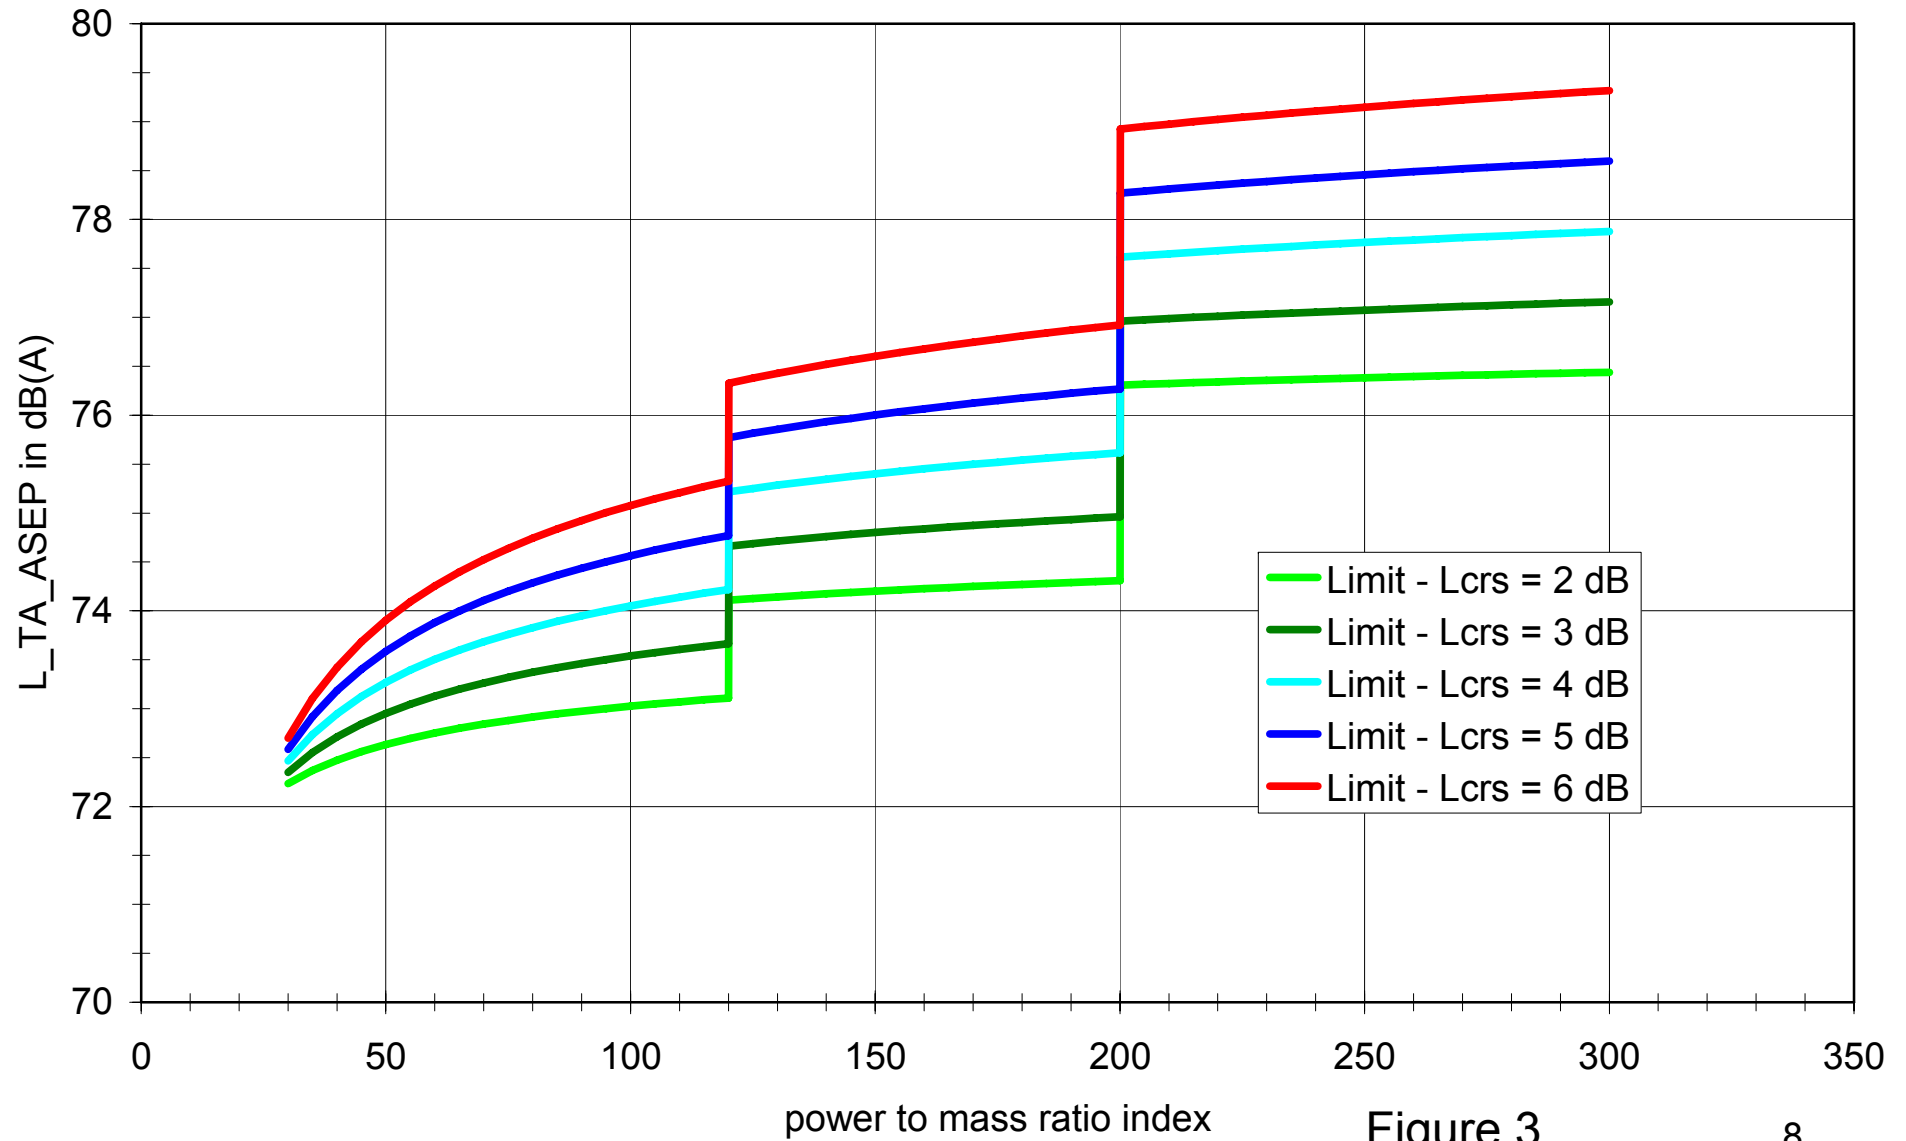

Figure 3
- The reference level **L\_TA\_ASEP** is a function of **Lcrs** as shown in figures 3 and 4. The lower **Lcrs** the higher is **L\_TA\_ASEP**. The difference increases with increasing power to mass ratio.